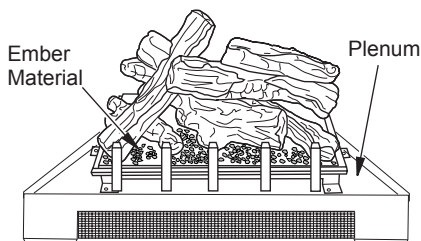

Figure 39 - Placing Ember Material on Burner
1. Pull ember material apart into pieces no larger than a dime. Place these pieces loosely and sparingly directly onto exposed front section of burner (see Figure 39). This will create the glowing ember appearance as flame touches ember material. Do not block air slots by using too much ember material in one area. Place small pieces of ember material to cover pilot ports. It is not necessary to use all of the ember material provided.